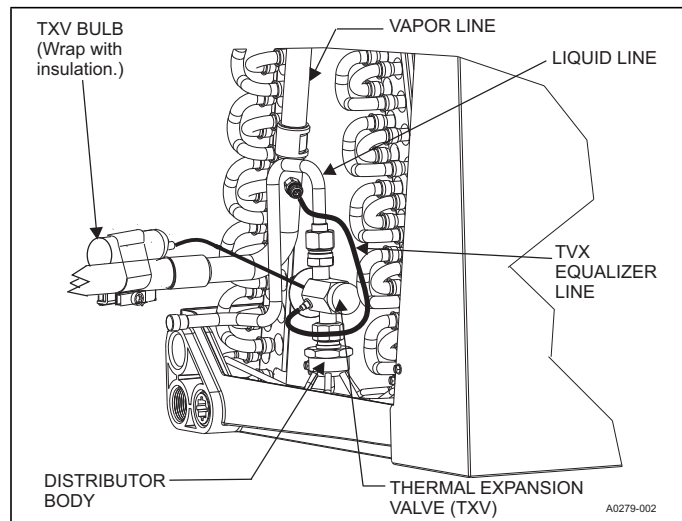

FIGURE 7: TXV Bulb and Equalizer Line Installations
6. Install the TXV equalizer line onto the vapor line by hand tightening the 1/4 in. SAE coupling nut to the equalizer fitting, and apply an additional 1/3 turn to seal. See Figure 7.
8. Install the TXV bulb to the vapor line near the cabinet, using the bulb clamps furnished with the TXV assembly. Ensure the bulb is making maximum contact. See Figures 7 and 8.